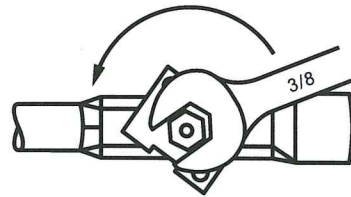

FIGURE 12.
- Facing the burner orifice, use a 3/8 inch open-end wrench to remove the orifice by rotating the orifice and wrench counter-clockwise ↺, see Figure 12.